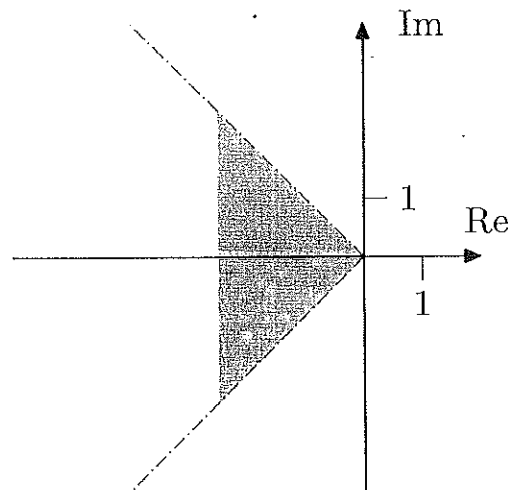

Figure 3.1c
- d) Assume that we use proportional control, that is,  $F(s) = K$ . How large gain,  $K$ , can we select if we want all poles of the closed loop system to be in the area shown in Figure 3.1c?